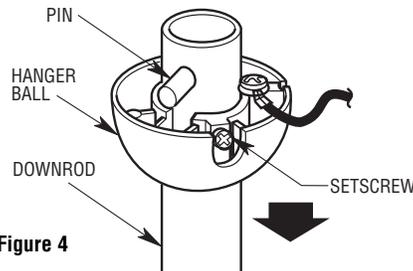

Figure 4
- 9. Remove the hanger ball by loosening the setscrew in the hanger ball until the ball falls freely down the downrod (Figure 4). Remove the clevis pin from the downrod, then remove the hanger ball. Retain the pin and hanger ball for reinstallation in Step 14.
It is critical that the clevis pin in the motor coupling is properly installed and the setscrew securely tightened. Failure to verify that the pin and setscrew are properly installed (as shown in Figure 4) could result in the fan falling.